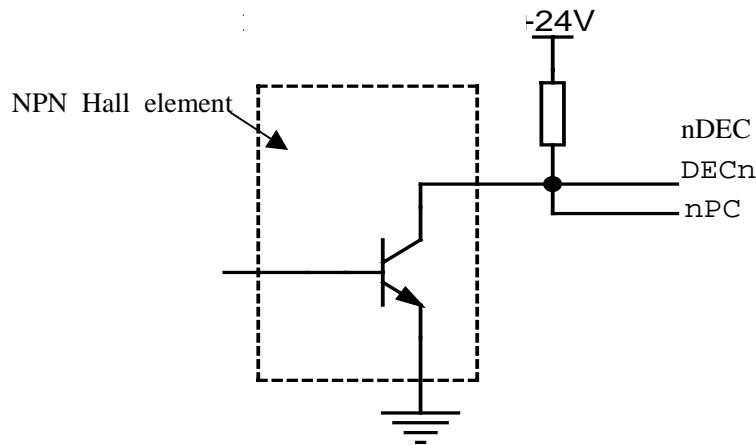

Fig. 2-8 Connection using NPN Hall elements
a) The connection for NPN Hall elements taken as both deceleration signal and zero signal is as Fig. 2-8: